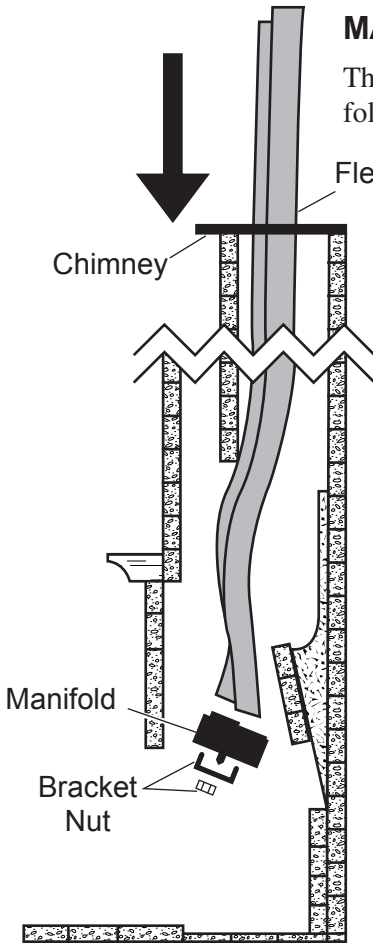

Figure 8 - Placing Manifold Into Fireplace
3. Route flex vent through chimney from above. See Figure 8. Leave an extra 3" (914mm) at the top.